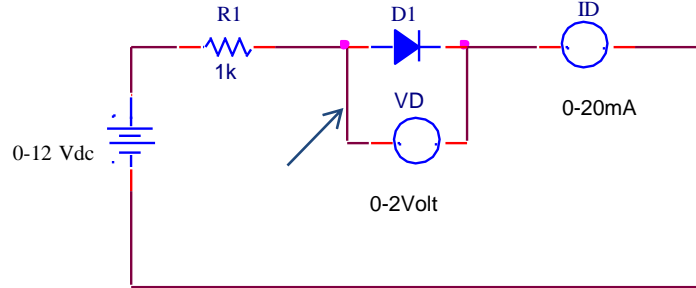

Fig. 3.1 Circuit diagram for forward bias condition of diode
The circuit diagram for the forward bias has been shown in fig. 3.1. The forward bias region is entered when terminal voltage v is positive. In this case V_D is several times of V_T due to which $e^{\frac{V_D}{nV_T}} \gg 1$. Hence, diode current in forward bias is given as
1. Using suitable patch cords make connection as shown in Fig. 3.1 for forward characteristics